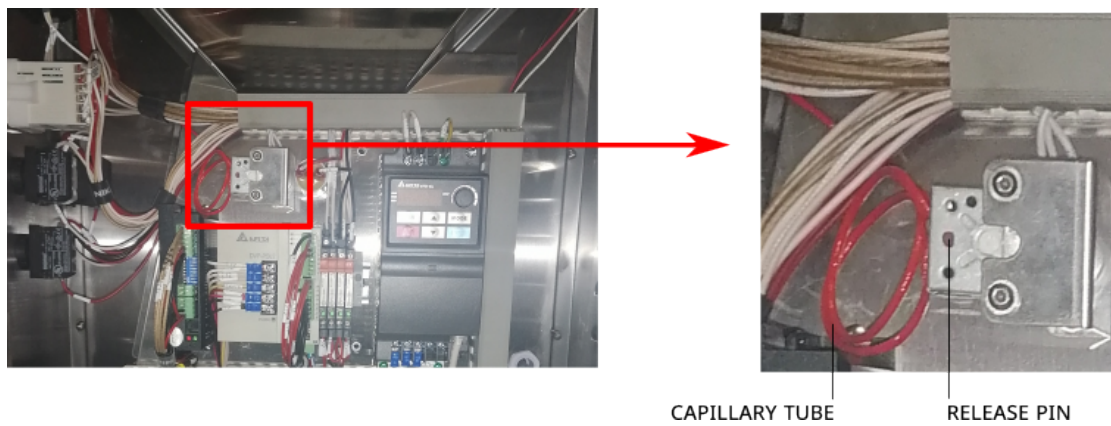

Figure 8: Thermal cut-out
Thermal cut-out (AT) controls the contactor (KM2) that feeds the heating elements (EK1,EK2). Sensing element (bulb) of the cut-out is located in the heating elements area and connected to the cut-out with **Capillary tube**, see Fig. 8. If the temperature in the area exceeds 350° C, then the thermal cut-out (AT) trips and opens the contactor (KM2), avoid further heating.
If thermal cut-out tripped, then it is a must to find out the reason caused this and eliminate it. After this the thermal cut-out needs to be released to continue normal operation. To release the cut-out, press the **Releasing pin**, see Fig. 8: